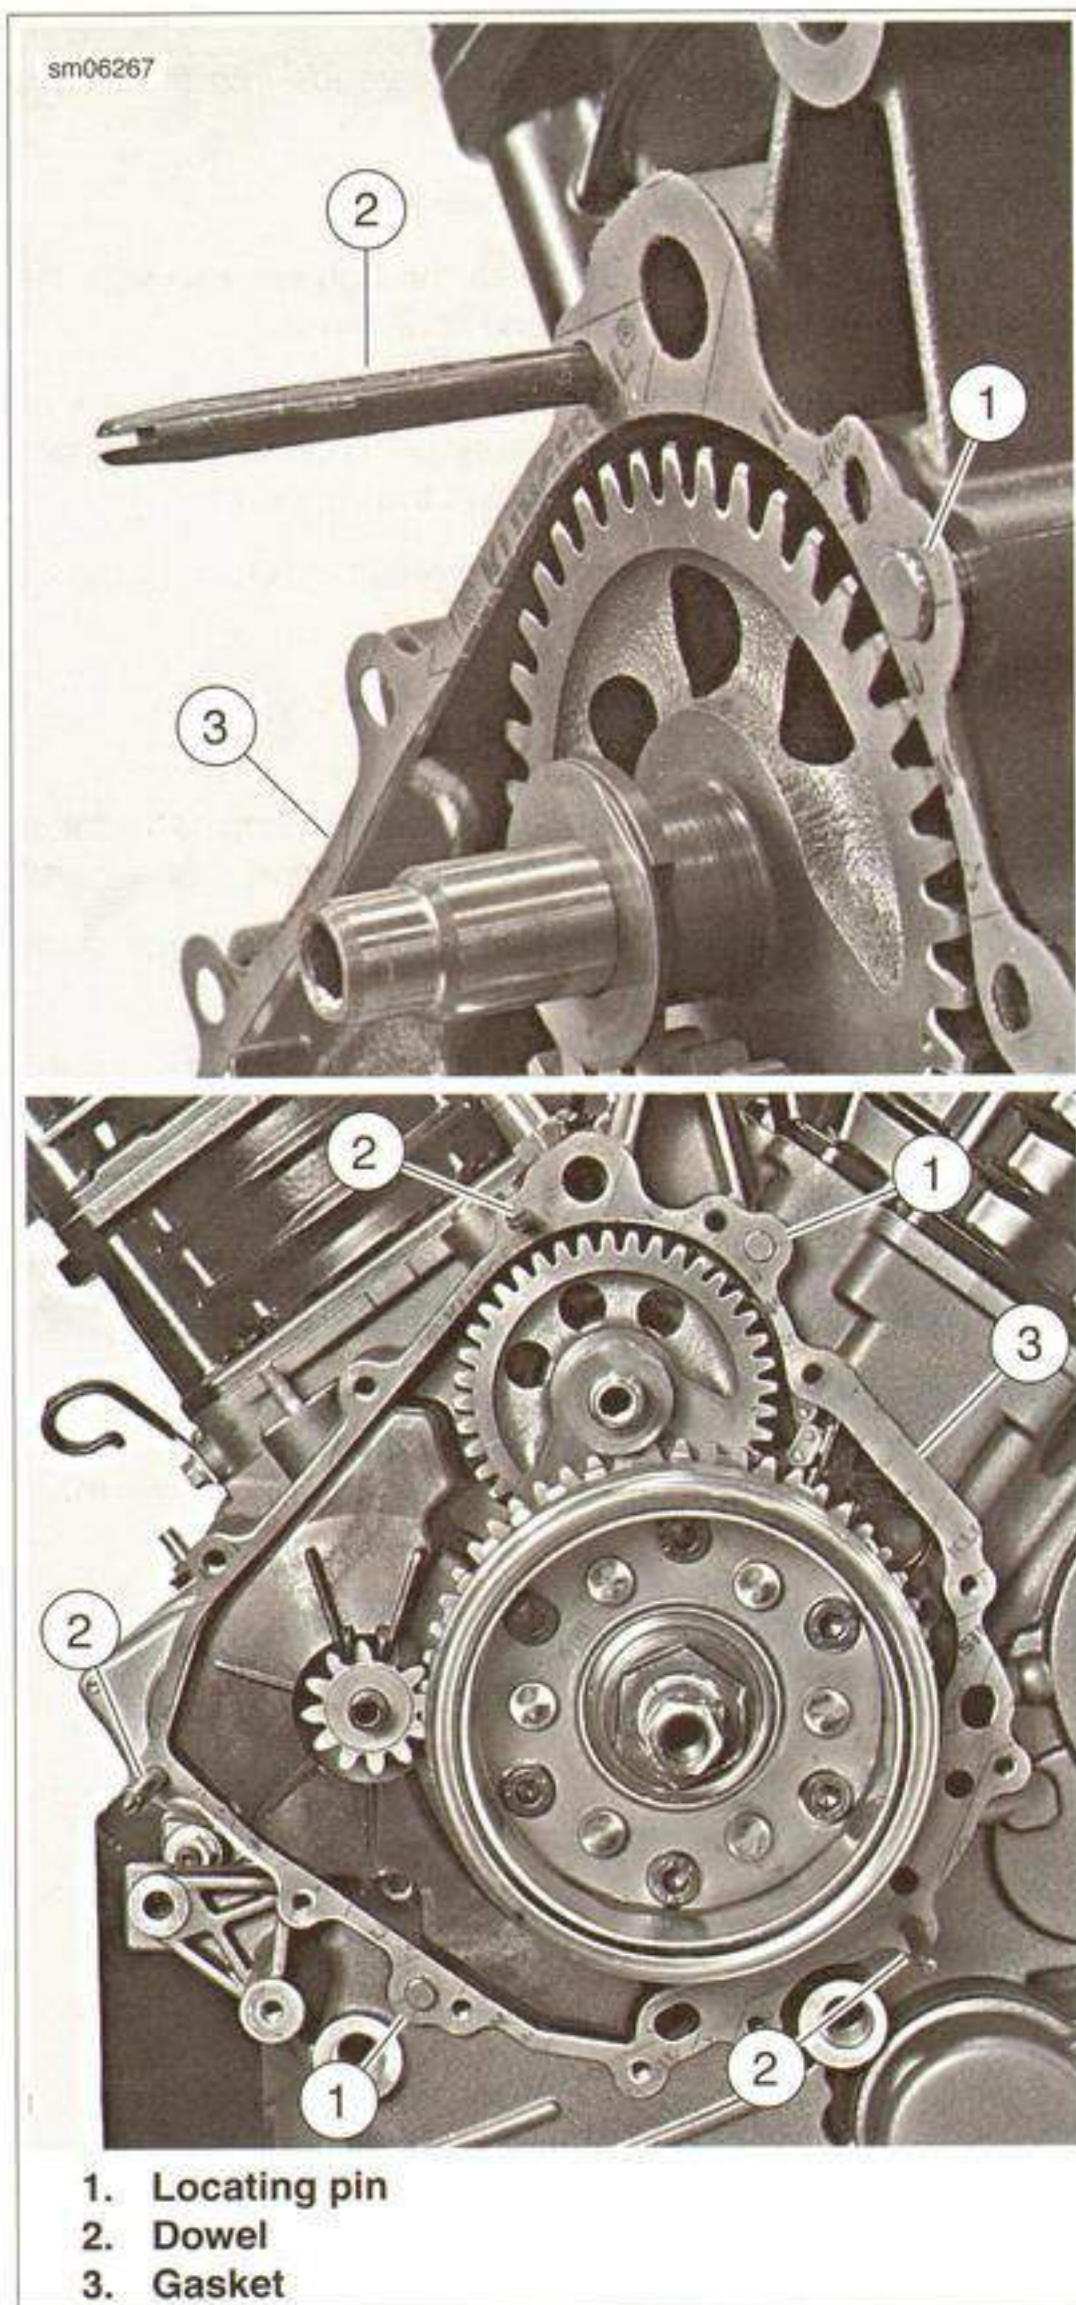

Figure 3-147. Alignment Dowel and Locating Pin Locations
1. See Figure 3-147. Check the locating pins (1) in the case.
2. Thread GASKET ALIGNMENT DOWELS (Part No. HD-45340) (2) into their locations.
3. Fit a **new** gasket (3) over the dowels and the locating pins.